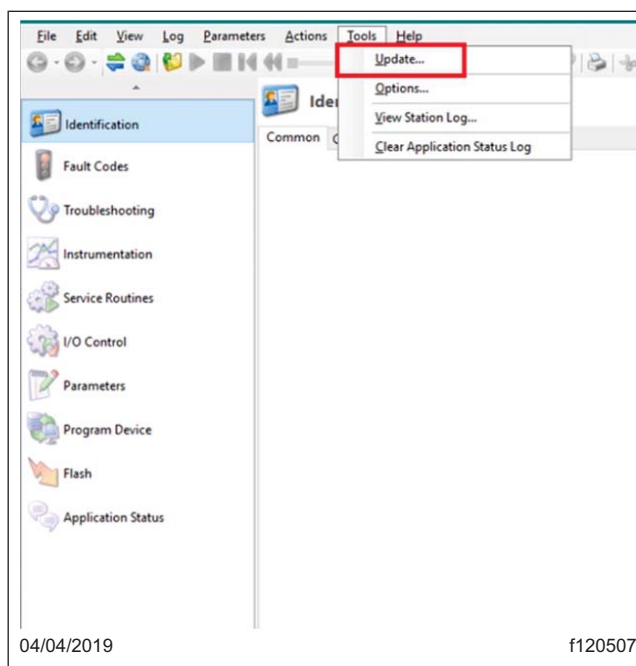

Fig. 1, Updating DiagnosticLink to the Latest Version
3. Connect the vehicle to DiagnosticLink. Make sure that DiagnosticLink is updated to the latest version, 8.10, or newer. To update DiagnosticLink, select "Update" from the dropdown menu under "Tools." See Fig. 1.